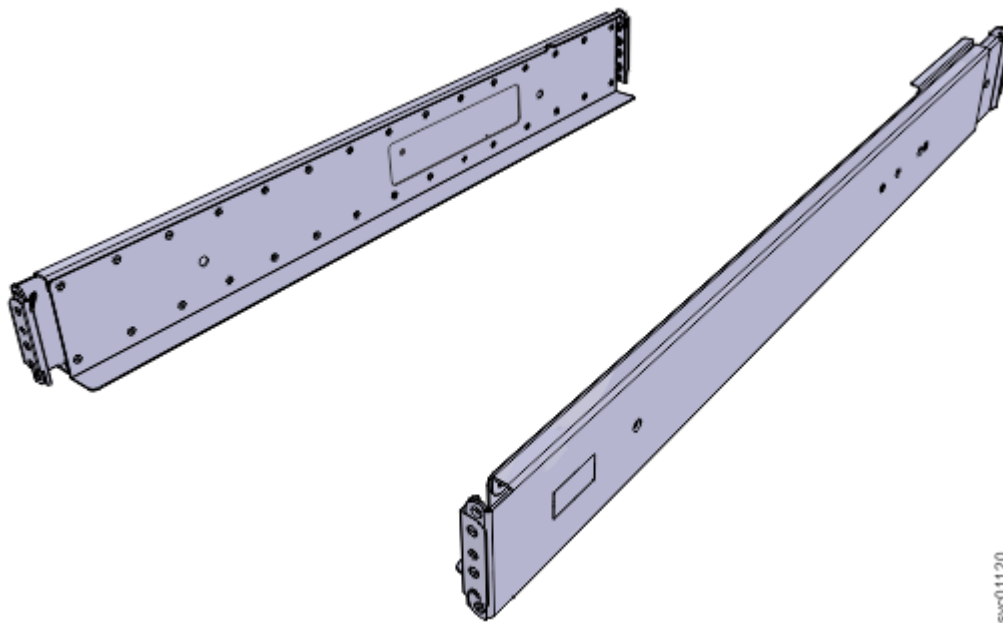

Figure 1. Control enclosure support rails
1. Locate the control enclosure rails (Figure 1 on page 12).